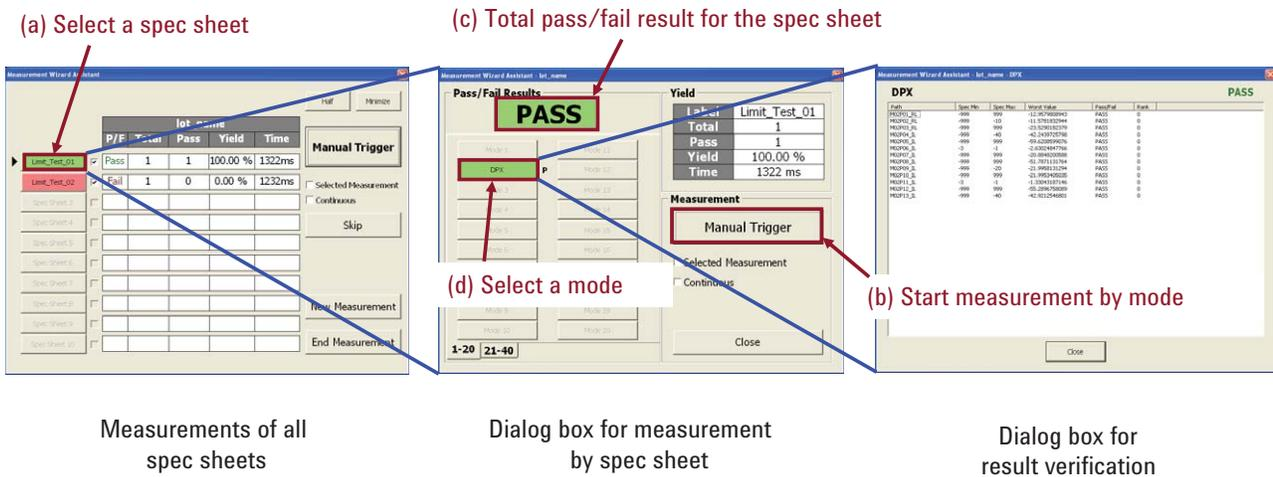

Figure 15. Measurement analysis with MWA software
- 1) Select the name of the spec sheet (Figure 15a), and the dialog box which is used for measurement by the spec sheet is displayed (Figure 15).